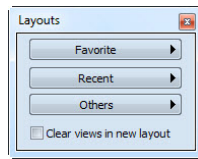

Figure 11 – Layouts tool
1. Click on the  **Layout** item in main toolbar or on the **Favorite**, **Recent** or **Others** button in the **Layouts** tool of the tools panel (see Figure 11).